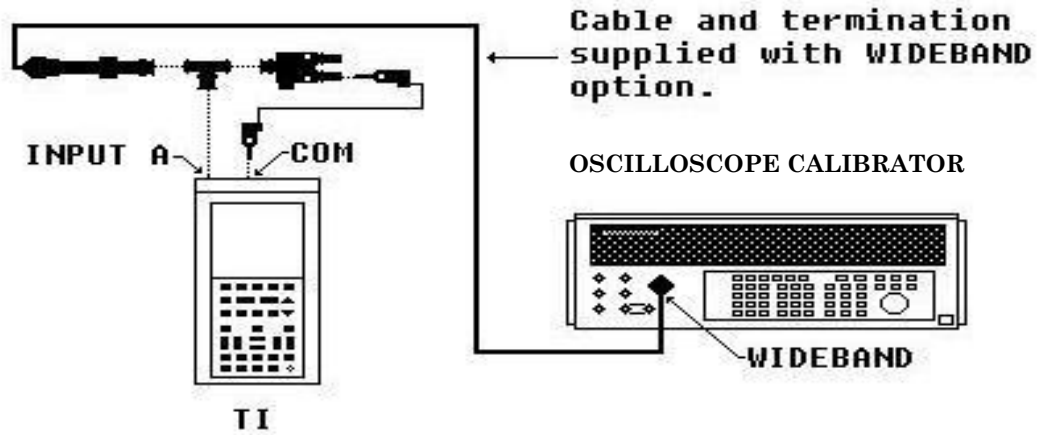

Figure 6. Meter ac voltage.
- (7) **RESET** calibrator.
- (8) Connect equipment as shown in figure 6 below: